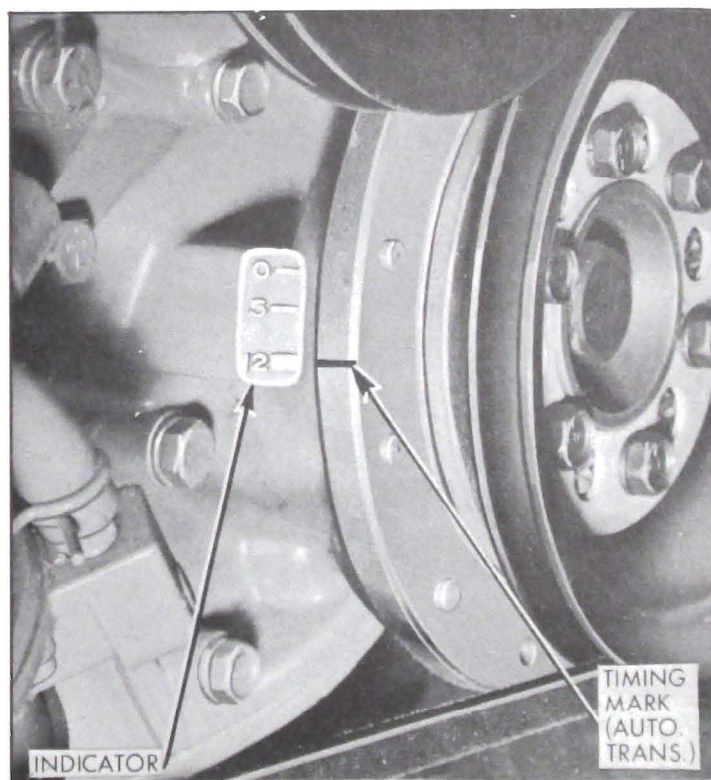

Figure 10-42—Ignition Timing Mark and Indicator
The timing mark is a groove filled with yellow paint, which is on the rear edge of the harmonic balancer. The timing indicator, a part of the timing chain cover, has three grooves filled with yellow paint. These grooves indicate U.D.C. (marked "0"), "5" degrees, and "12" degrees before U.D.C. See figure 10-42.
1. With right rocker arm cover removed, rotate crankshaft in a forward direction using a suitable wrench on the harmonic balancer to crankshaft bolt. Continue rotation until both valves for No. 1 cylinder are completely closed and the timing mark on balancer is aligned with the proper mark on timing indicator. See figure 10-42. No. 1 cylinder is now in position to fire.
4. Direct beam of timing light on the timing indicator and edge of harmonic balancer. Turn distributor housing slowly until yellow mark on balancer lines up with the proper mark on the indicator, then tighten clamp bolt securely. See figure 10-42.